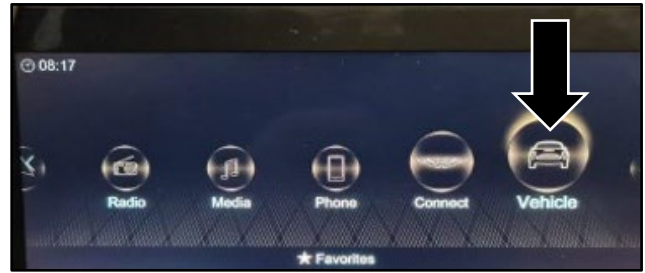

Figure 1
2. In the infotainment menu select "Vehicle" and hold the rotary selector down for 15 seconds (refer to Figure 1).